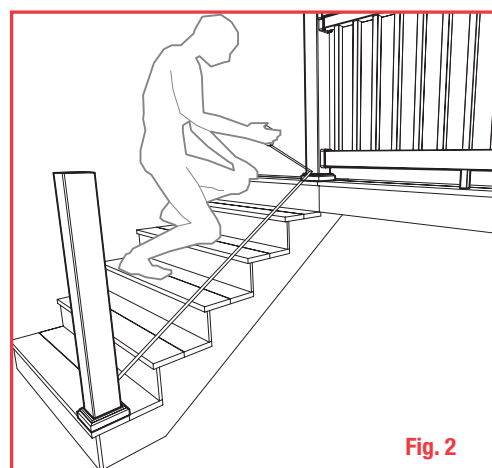

Fig. 2
- 2 Measure the length between the posts and confirm the Tam-Rail® Railing Kit required. **(Fig. 2)**
2. Measure the length between the posts and confirm the Tam-Rail® Railing Kit required. (Fig. 2)